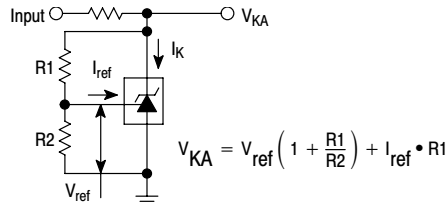

Figure 2. Test Circuit for $V_{KA} > V_{ref}$
| Ratio of Change in Reference Input Voltage to Change in Cathode to Anode Voltage I _K = 10 mA (Figure 2), ΔV _{KA} = 10 V to V _{ref} ΔV _{KA} = 36 V to 10 V | $\frac{\Delta V_{ref}}{\Delta V_{KA}}$ | – – | –1.4 –1.0 | –2.7 –2.0 | – – | –1.4 –1.0 | –2.7 –2.0 | mV/V |
| Reference Input Current (Figure 2) I _K = 10 mA, R1 = 10 k, R2 = ∞ T _A = 25°C T _A = T _{low} to T _{high} (Note 1) | I _{ref} | – – | 1.8 – | 4.0 6.5 | – – | 1.8 – | 4.0 5.2 | μA |
| Reference Input Current Deviation Over Temperature Range (Figure 2, Note 1, 4) I _K = 10 mA, R1 = 10 k, R2 = ∞ | ΔI _{ref} | – | 0.8 | 2.5 | – | 0.4 | 1.2 | μA |
- The dynamic impedance Z_{KA} is defined as: |Z_{KA}| = $\frac{\Delta V_{KA}}{\Delta I_K}$. When the device is programmed with two external resistors, R1 and R2, (refer to Figure 2) the total dynamic impedance of the circuit is defined as: |Z_{KA}'| ≈ |Z_{KA}| $\left(1 + \frac{R1}{R2} \right)$
| Ratio of Change in Reference Input Voltage to Change in Cathode to Anode Voltage I _K = 10 mA (Figure 2), ΔV _{KA} = 10 V to V _{ref} ΔV _{KA} = 36 V to 10 V | $\frac{\Delta V_{ref}}{\Delta V_{KA}}$ | – | –1.4 –1.0 | –2.7 –2.0 | – | –1.4 –1.0 | –2.7 –2.0 | – | –1.4 –1.0 | –2.7 –2.0 | mV/V |
| Reference Input Current (Figure 2) I _K = 10 mA, R1 = 10 k, R2 = ∞ T _A = 25°C T _A = T _{low} to T _{high} (Note 4) | I _{ref} | – | 1.8 – | 4.0 6.5 | – | 1.8 – | 4.0 5.2 | – | 1.1 – | 2.0 4.0 | μA |
| Reference Input Current Deviation Over Temperature Range (Figure 2, Note 4) I _K = 10 mA, R1 = 10 k, R2 = ∞ | ΔI _{ref} | – | 0.8 | 2.5 | – | 0.4 | 1.2 | – | 0.8 | 2.5 | μA |
6. The dynamic impedance Z_{KA} is defined as $|Z_{KA}| = \frac{\Delta V_{KA}}{\Delta I_K}$ When the device is programmed with two external resistors, R1 and R2, (refer to Figure 2) the total dynamic impedance of the circuit is defined as: $|Z_{KA}'| \approx |Z_{KA}| \left(1 + \frac{R1}{R2} \right)$